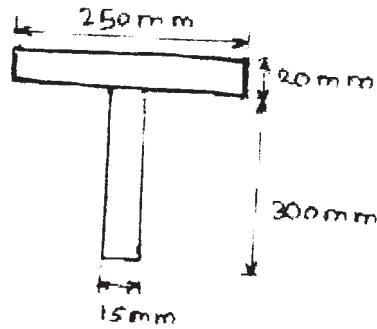

Fig.3.
- Q3) a) Find the centroid of the 'T' section as shown in fig 3. [6]